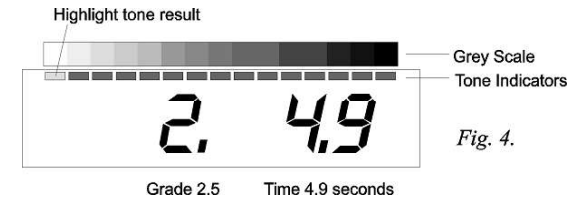
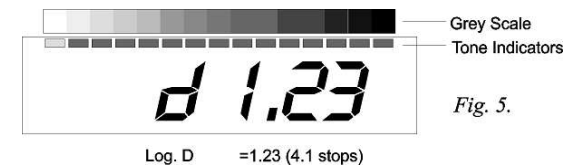

Fig. 4.
Fig. 5.
READING AND THE SAFELIGHT HAS BEEN SWITCHED BACK ON! The display indicates a suggested highlight exposure time as shown as in Fig.4. (The first reading will always be placed at or near the highlight end of the grey scale, irrespective of the actual tone on the negative.) Now position the remote sensor in a highlight (dense negative) part of the image and briefly press and release the "Measure" button. After a delay the measured density range in logarithmic units is shown temporarily (Fig.5)
- 2 The LED representing the most recent measurement will flash briefly to assist identification. During this period, the display shows the relative density of the negative as a log.D figure (refer to Fig.5). The density measurements are always relative to the brightest measurement so for them to be useful ensure that you measure the brightest negative area (deepest print shadow) first.